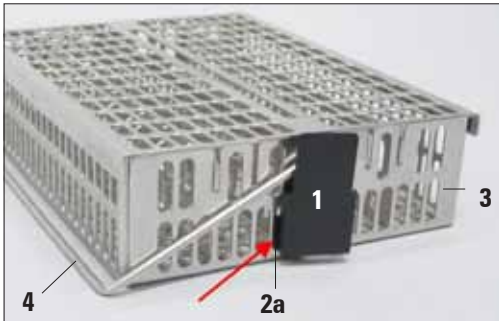

Fig. 10
- Insert the left lug (**2a**) of the anti-reflection clip (**1**) into the seventh hole (from the left) of the lower oval openings (Fig. 10).